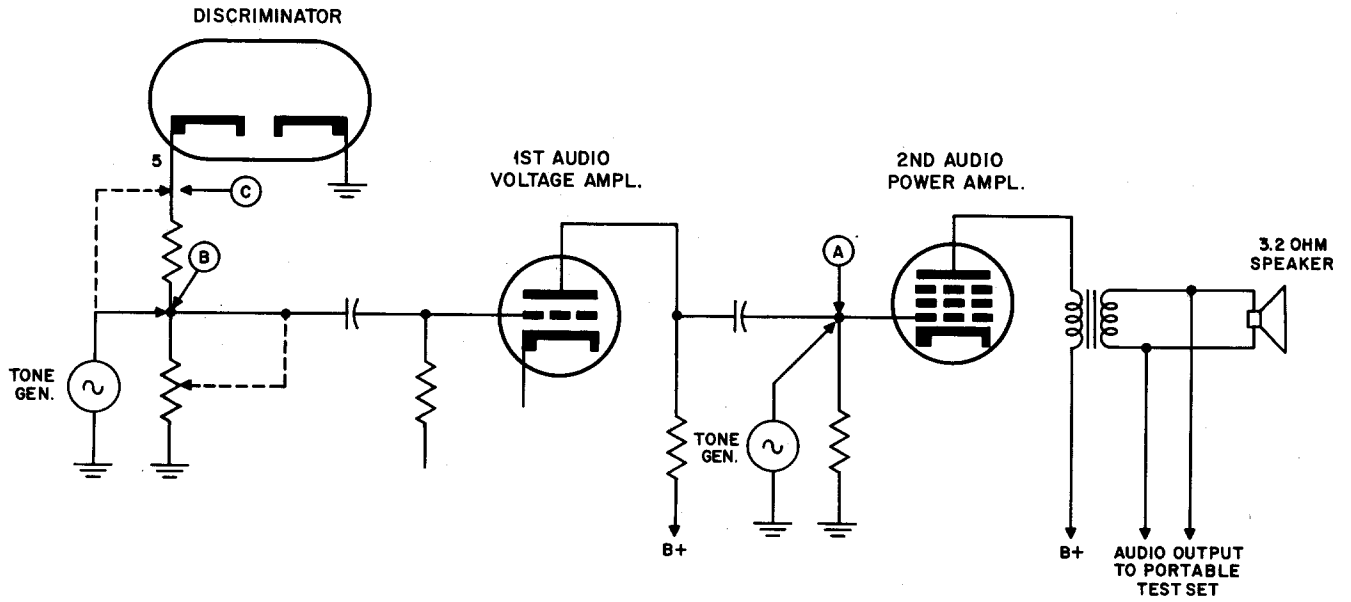

FIGURE 1.
In checking the audio output of a receiver the tone generator output is applied to various probing points in the receiver audio stages, (see Fig. 1). The receiver output level is then indicated on the portable test set meter. This output voltage is a function of audio stage gain and its level is an indication that the audio stages of the receiver tested have normal gain or power output.
c. Use a pair of clip-on test leads with pin tips on one end from the tone generator and connect one lead to ground and the other lead to the grid of the last (PA) audio stage of the receiver point "A" in Fig. 1. Adjust output of tone generator to 2 volts. Note reading on test set meter. This reading will be an indication of audio output level.
d. Move the generator lead to the top of the grid type volume control or junction point "B" in Fig. 1. Set squelch control to the unsquelched position and any volume controls full on. Adjust output of tone generator to .5 volts. Note the meter reading on the test set. This reading will be an indication of output level developed from the amplification of the two audio stages.
e. Move the generator lead to the output of the discriminator point "C" Fig. 1 (Pin 5 on 6AL5 Discriminator Tube Socket). Adjust output of tone generator to 2 volts. Note the meter reading on the test set. This reading is an indication of level developed from the discriminator point.
Figure 1 gives a common arrangement for the audio section of a communications receiver. Some models do not have a grid type volume control, and here another point may be substituted for point "B".
To determine input power, the generator should be terminated into a 500-ohm load, so connect a 470 (500) ohm resistor across the generator leads and then connect to the grid of the last amplifier point "A" Fig. 1. Adjust the generator for an output of 1 volt at the grid. The input
To find the voltage gain of the first stage, apply a signal of .25 volts to point "B" Fig. 1. Leaving the generator connected, measure the a-c voltage at point "A" (across the grid resistor of the output stage). The ratio of the output voltage to the input is the approximate voltage gain of the stage at the frequency used.